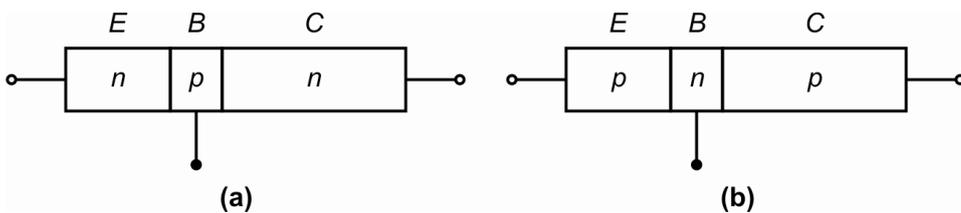

Fig.10.1: a) $n-p-n$ transistor and (b) $p-n-p$ transistor
- study variation of base current with potential difference between the base and the emitter (input characteristics) in common-emitter (CE) configuration;
A transistor is a three-terminal device consisting of alternate regions of p - and n -type semiconductors, as shown in Fig. 10.1. The three segments of the transistor are called emitter (E), base (B) and collector (C). Note that (i) the emitter is sandwiched between the emitter and the collector, (ii) the emitter and collector are of the same type (p or n), and (iii) the base and emitter (or collector) are of different materials.